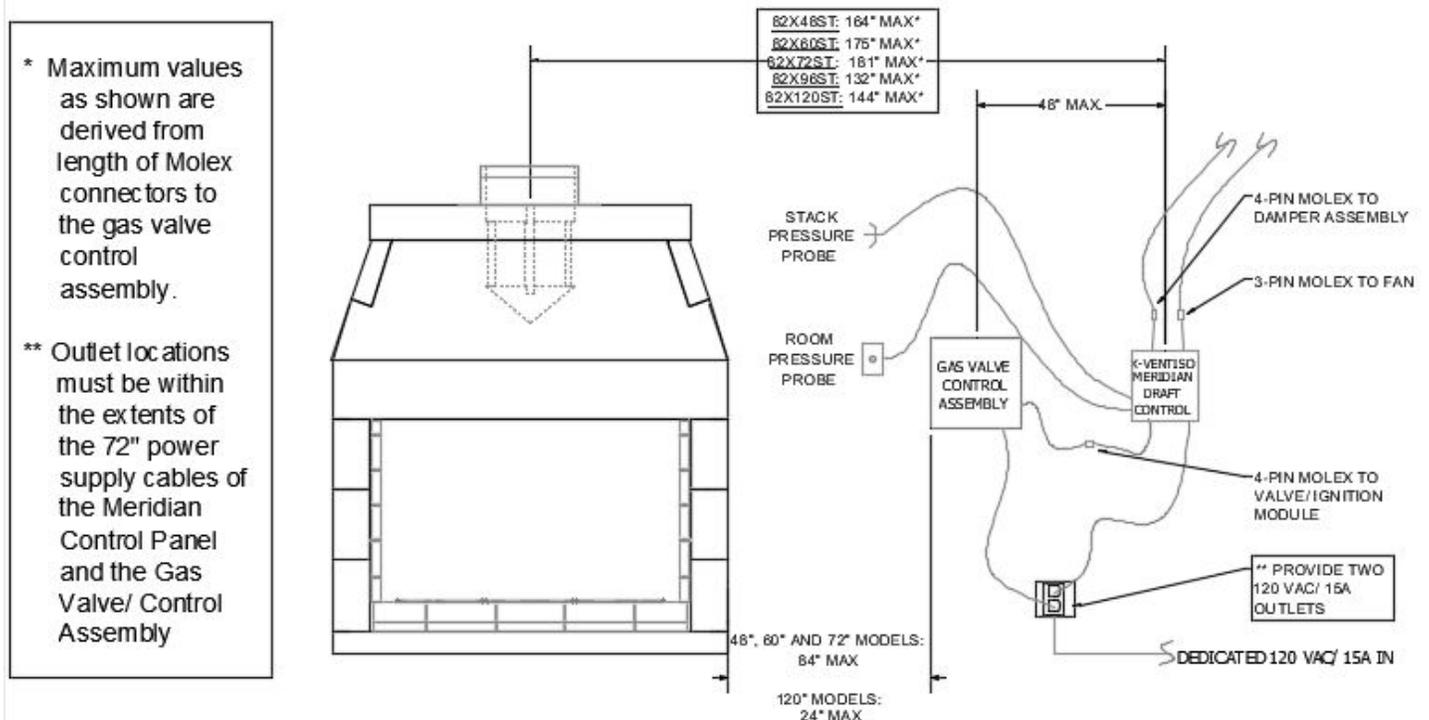

FIGURE 25
NOTE: the Isoflames XL Burner’s gas valve control box location is also dependent upon the fireplace model/ burner size. It must be located within 84” of the sidewall of the firebox for the 48”, 60”, and 72” XCELUX SEE-THRU and within 24” for the 96” and 120” XCELUX SEE-THRU **(Figure 25)**.
- 3) Connect the top port of the Meridian Control Panel's pressure ports with the supplied tubing to the "Stack Pressure" vent probe (Figure 25, 26 & 27). This will be connected to the chimney at a location 12" above the anchor plate.
- 4) Connect the lower port of the Meridian Control Panel's pressure ports with the supplied tubing to the "Room Pressure" probe/cover plate (Figure 25, 26 & 27). The other end will be connected in a suitable location in the room in which the fireplace is installed. This location must be in the same pressure zone as the fireplace opening, and within reach of the supplied tubing's connection to the X-VENTISO Meridian Draft Control Panel. Do not locate sensor in close proximity to exterior doors, opening windows, supply air diffusers, or other know air disturbances. The tubing measures 20ft.